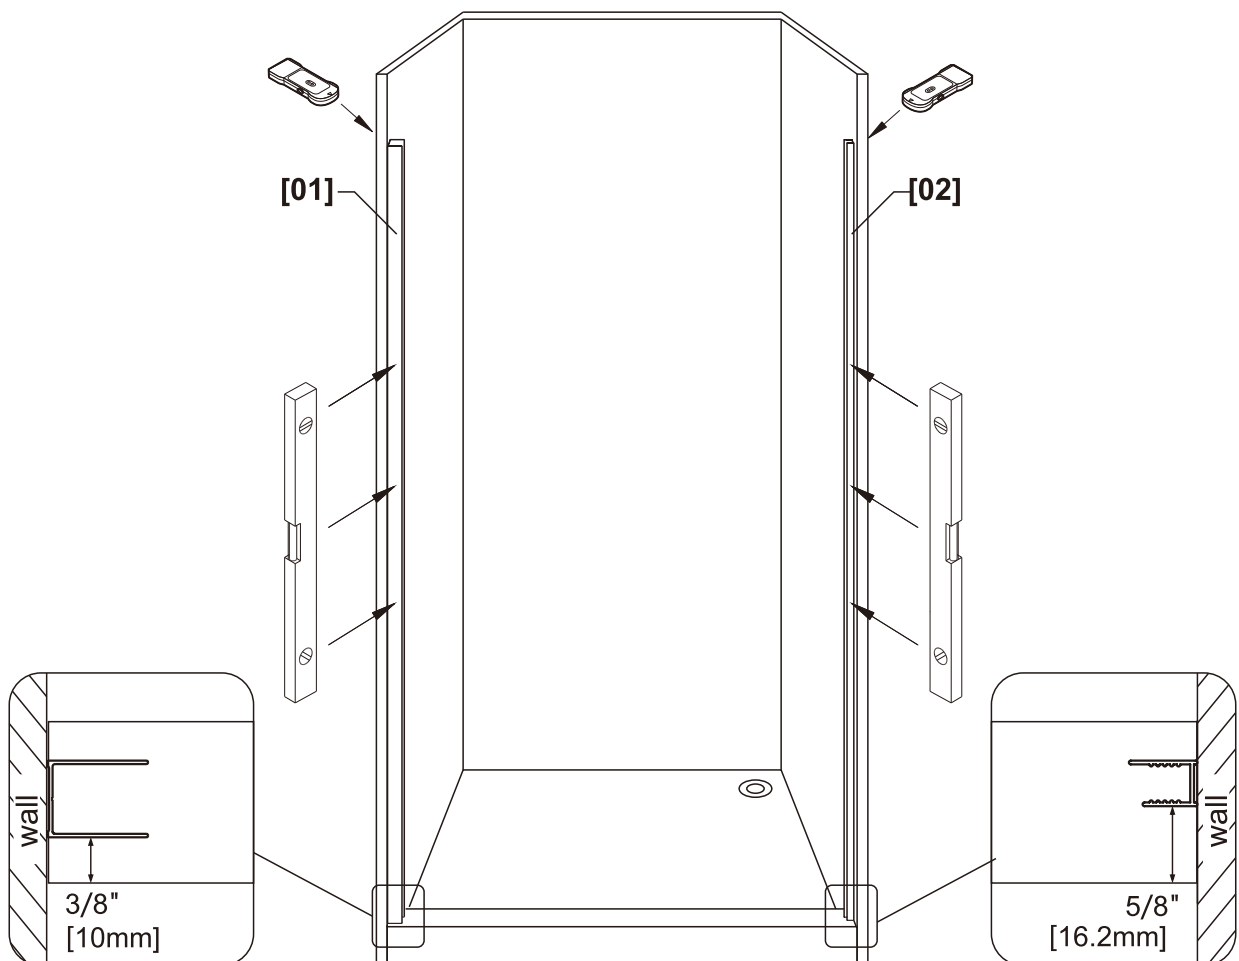

Fig 1
1. This shower door must be mounted to a wall stud. Minimum threshold space is required. **IMPORTANT:** Using a stud finder, ensure the wall intended to hold the door has a stud at the installation point. If there is no stud in the shown area, we recommend employing a qualified contractor to install one. (Fig 1)
3. Using a level, position the **Wall Post A [01]** and **Wall Post B [02]** on the threshold. (Fig 1)